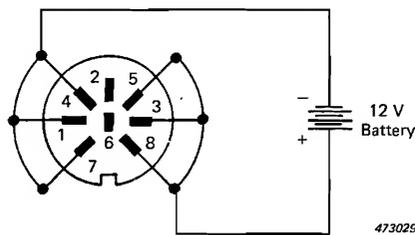

Fig. 2.5. Connection of an external 12 volt battery supply to the BATTERY INPUT socket of the 2606
**BATTERY INPUT:** 8 pin socket accepting the DIN plug (B & K no. JP 0802) provided for connection of a 12 volt battery supply to power the 2606. The maximum current consumption is 2 amps. For connections see Fig. 2.5.
If a battery supply is used then it should have a voltage rating of 12 volts and should deliver approximately 2 amps. The necessary battery connections are given in Fig.2.5. It should be noted that with battery operation the meter scale lamps are not lit, saving approximately 6 watts. However, the range indicator lights of the meter will function and will show when the instrument is on.